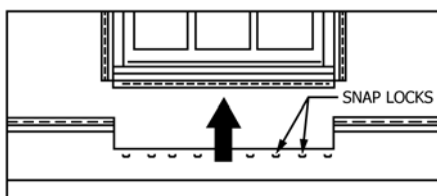

FIG. 14 Preparation of Siding Panel Under Window
9.3.6 If the top of the siding panel will extend above the bottom of the window, cut a section out of the panel to fit under the opening. Be sure the uncut portion of this panel extends on both sides of the window. Measure the panel to fit. Hold the siding panel under the window and mark the width of the opening on it. Allow 1/4 in. (6.4 mm) clearance at the edges for insertion into each side of the J-channel. Measure the space between the bottom edge of the S-lock on the previous panel and the top of the undersill trim, minus 1/4 in. (6.4 mm) for insertion into the undersill trim receiver. Remove cut section. Punch snap locks every 6 in. (152 mm) along the horizontal cut edge. Slide the panel up into position so the bottom locks into the previous panel and the top snaps into the undersill trim and fasten. (See Figs. 14 and 15.)